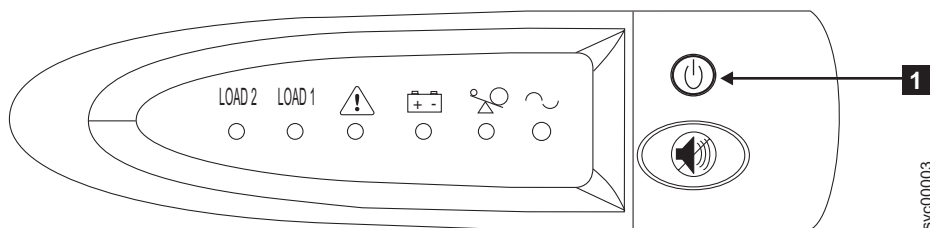

Figure 336. The 2145 UPS-1U front-panel assembly
1. At the front of the 2145 UPS-1U, press and hold the on/off button (**1** in Figure 336) until the power light is extinguished (approximately five seconds). On some versions of the 2145 UPS-1U, you need a pointed device, such as a screwdriver, to press the on/off button. The 2145 UPS-1U enters standby mode.